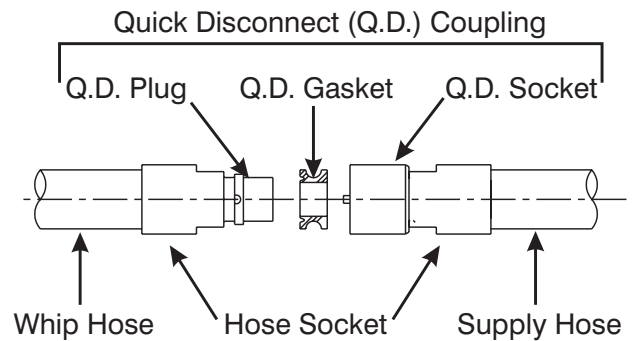

Figure 8-11. Quick Disconnect Components
1. Refer to Figure 8-11, and separate Q.D. Socket (17) from the Q.D. Plug (15).